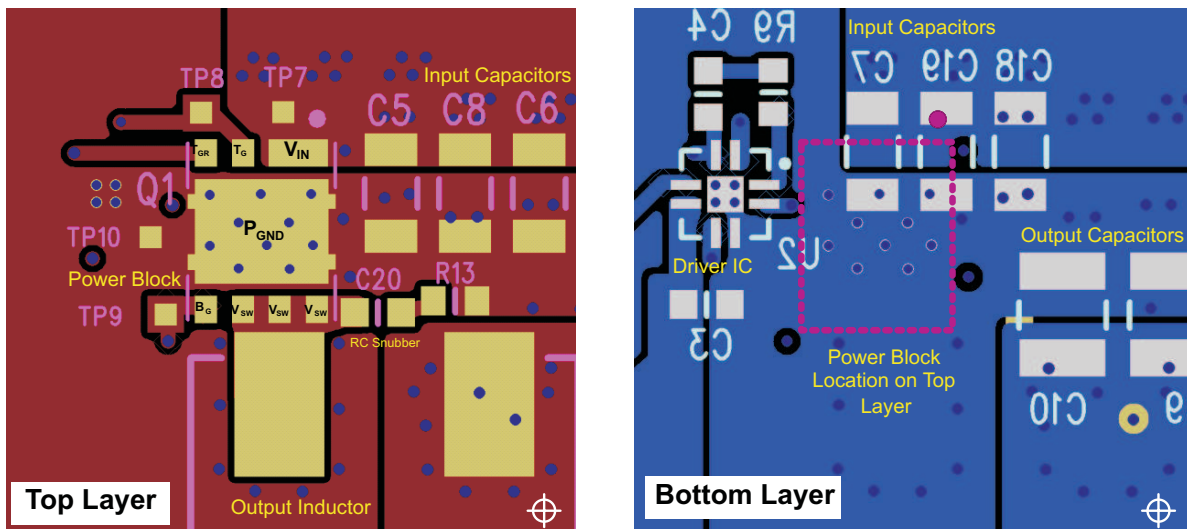

Figure 34. Recommended PCB Layout (Top View)
- The placement of the input capacitors relative to the power block's VIN and PGND pins should have the highest priority during the component placement routine. It is critical to minimize these node lengths. As such, ceramic input capacitors need to be placed as close as possible to the VIN and PGND pins (see Figure 34). The example in Figure 34 uses 6 × 10-μF ceramic capacitors (TDK Part C3216X5R1C106KT or equivalent). Notice there are ceramic capacitors on both sides of the board with an appropriate amount of vias interconnecting both layers. In terms of priority of placement next to the power block, C5, C7, C19, and C8 should follow in order.
- In the event the switch node waveform exhibits ringing that reaches undesirable levels, the use of a boost resistor or RC snubber can be an effective way to reduce the peak ring level. The recommended boost resistor value will range between 1 Ω to 4.7 Ω depending on the output characteristics of driver IC used in conjunction with the power block. The RC snubber values can range from 0.5 Ω to 2.2 Ω for the R and 330 pF to 2200 pF for the C. Refer to Snubber Circuits: Theory, Design and Application (SLUP100) for more details on how to properly tune the RC snubber values. The RC snubber should be placed as close as possible to the Vsw node and PGND see Figure 34.⁽¹⁾
- Use the smallest drill size allowed in your design. The example in Figure 34 uses vias with a 10-mil drill hole and a 16-mil capture pad.